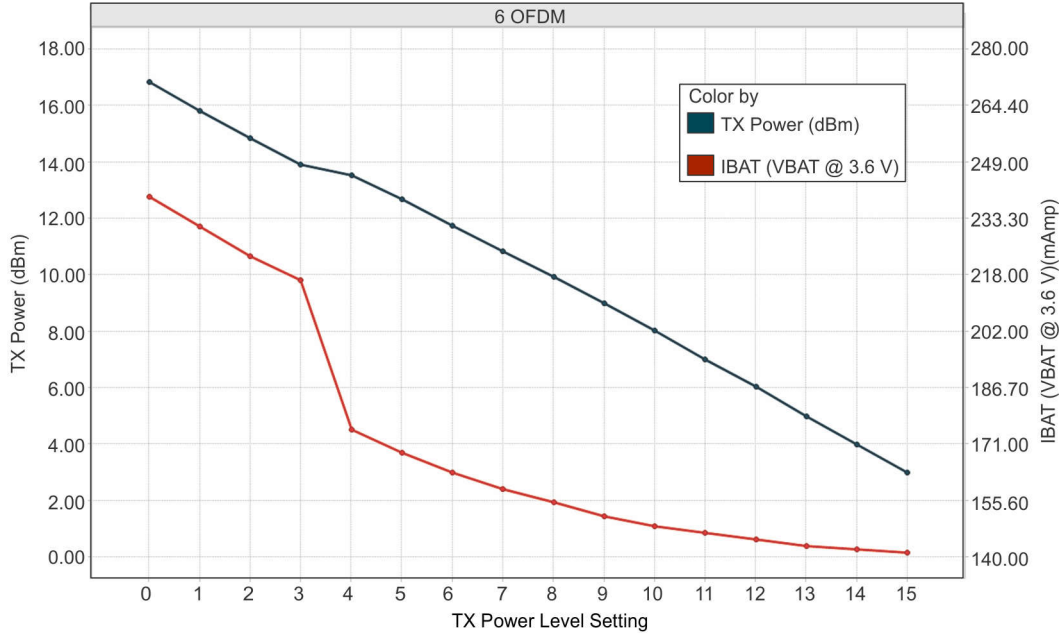
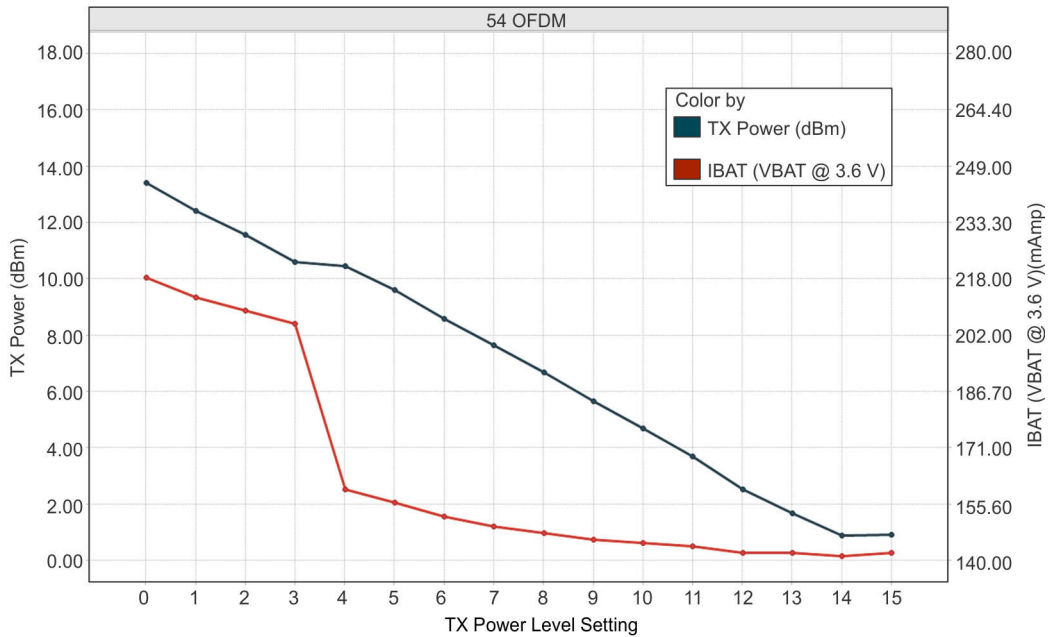

图 7-2. TX Power and IBAT vs TX Power Level Settings (6 OFDM)
图 7-3. TX Power and IBAT vs TX Power Level Settings (54 OFDM)
- (1) TX power level = 0 implies maximum power (see 图 7-1, 图 7-2, and 图 7-3). TX power level = 4 implies output power backed off approximately 4dB.
- (2) The CC3135MOD system is a constant power-source system. The active current numbers scale based on the V_{BAT} voltage supplied.
- (3) The RX current is measured with a 1Mbps throughput rate.
- (4) DTIM = 1
- (5) The complete calibration can take up to 17mJ of energy from the battery over a time of 24ms. In default mode, calibration is performed sparingly, and typically occurs when reenabling the NWP and when the temperature has changed by more than 20°C . There are two additional calibration modes that may be used to reduced or completely eliminate the calibration event. For further details, see CC31XX CC32XX SimpleLink™ Wi-Fi® and IoT Network Processor Programmer's Guide.
- (5) The complete calibration can take up to 17mJ of energy from the battery over a time of 24ms. In default mode, calibration is performed sparingly, and typically occurs when reenabling the NWP and when the temperature has changed by more than 20°C . There are two additional calibration modes that may be used to reduced or completely eliminate the calibration event. For further details, see CC31XX, CC32XX SimpleLink™ Wi-Fi® and IoT Network Processor Programmer's Guide.